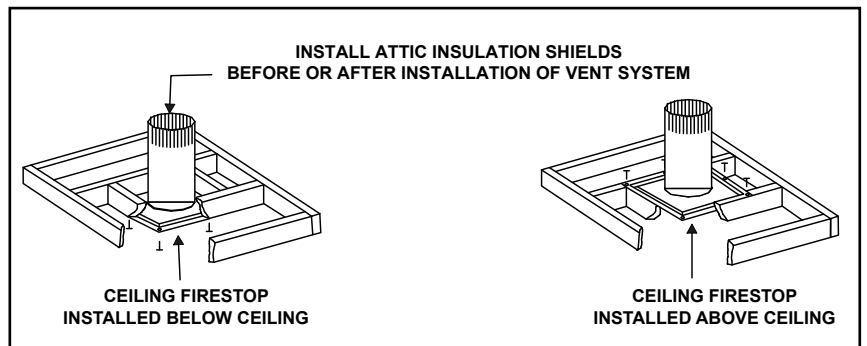

Figure 5.6 Installing the Attic Shield
- The ceiling firestop may be installed above or below the ceiling joists when installed with an attic insulation shield. It must be under joists between floors that are not insulated. See Figure 5.6.